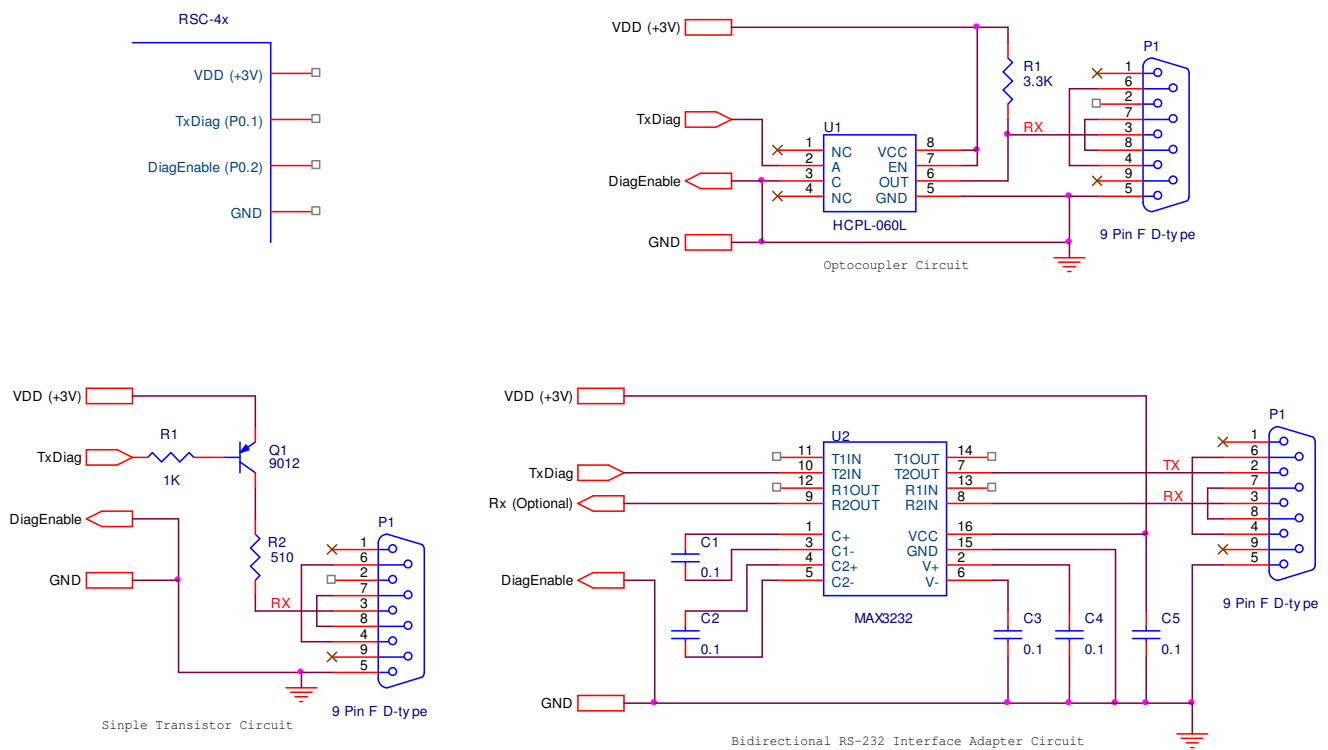

Figure 7 - Three Sample RSC-4x Diagnostic Output PC Interface Circuits
- Usage (NLP)** - On the NLP-5x chip, a nine pin header is required for diagnostic output, refer to the figure 7 below for a description of the header pinouts. In addition, a Diagnostic Output Interface Cable and Sensory Program/Verification board is required. On the NLP-5x, Diagnostic Output is enabled by –TRST. When this pin is asserted low at any time, then the NLP-5x will output JTAG messages for diagnostic output.